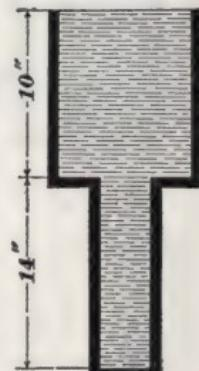
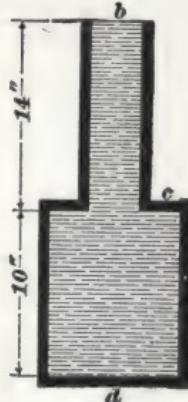

FIG. 4.
FIG. 5.
**10.** Suppose that the vessel *b*, in Fig. 3, were inverted, as shown in Fig. 4, the pressure on the bottom would still be .868 pound per square inch, but it would require a weight of 3,490 pounds on a piston at the upper surface to make the pressure on the bottom 391.25 pounds, instead of a weight of 40 pounds, as in the other case.
**11. Upward Pressure.**—In Fig. 5 is represented a vessel of exactly the same size as that shown in Fig. 4. There is no upward pressure on the surface *c d* due to the weight of the water in the large part *c d*, but there is an upward pressure on *c* due to the weight of the water in the